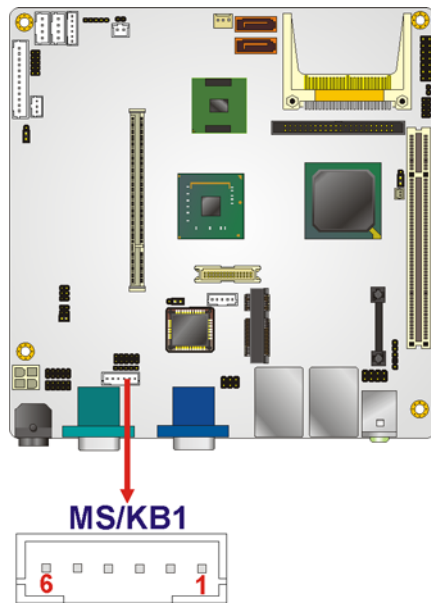

Figure 4-9: Keyboard/Mouse Connector Location
- CN Location:** See **Figure 4-9**